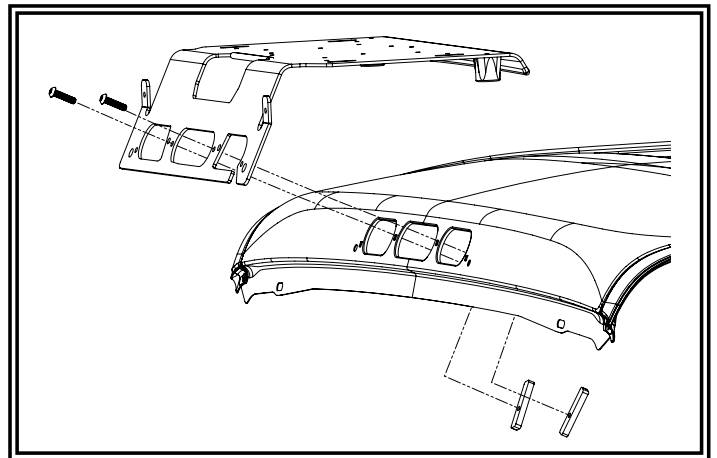

FIGURE 1
3. Align the mounting holes on the mounting plate with the third brake light mounting holes in the vehicle body as shown in FIGURE 1.